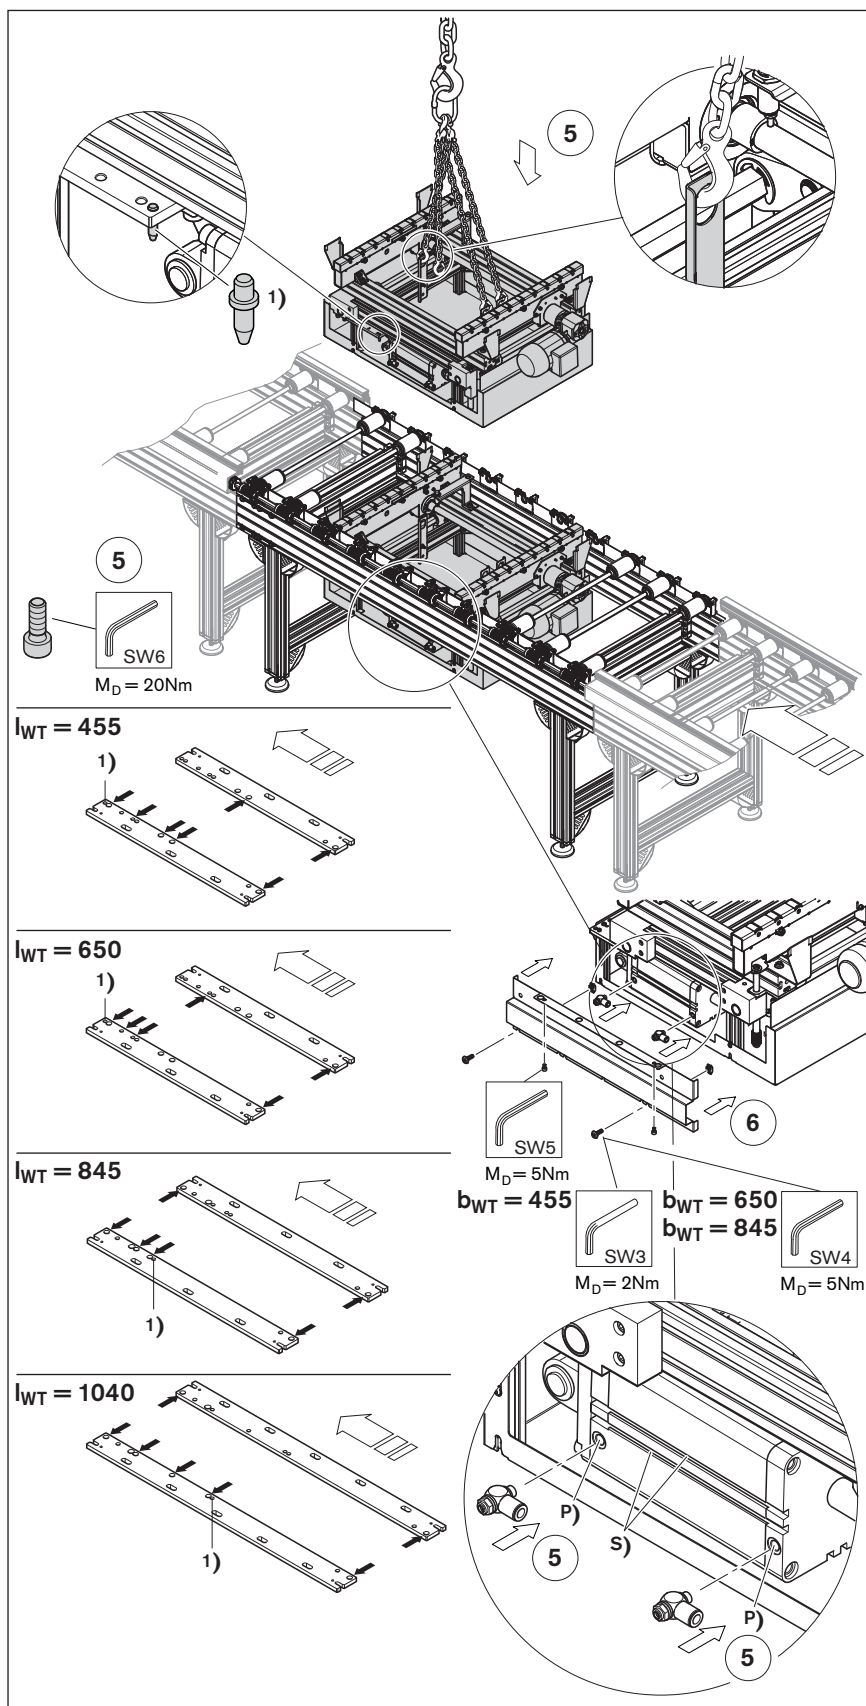

Fig. 64 HQ 5, assembly from the top (1/3)
Note: The positioning pin can be used as an insertion aid for pre-centering (Fig. 64: 1).
6. Screw the throttles (included in scope of delivery) into the cylinders, and connect the pneumatic supply (Fig. 64: 5).